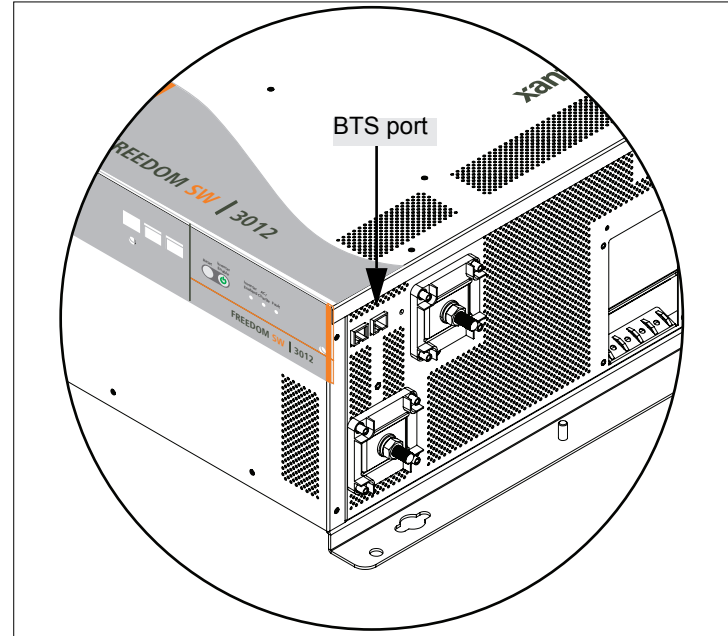

Figure 13 Connecting the BTS Cable to BTS Port
9. Route the sensor cable to the inverter/charger and plug it into the blue BTS port, as shown in Figure 13. Secure the cable along its length.
6. Route the sensor cable to the inverter/charger and plug it into the Battery Temp. jack, as shown in Figure 13. Secure the cable along its length.